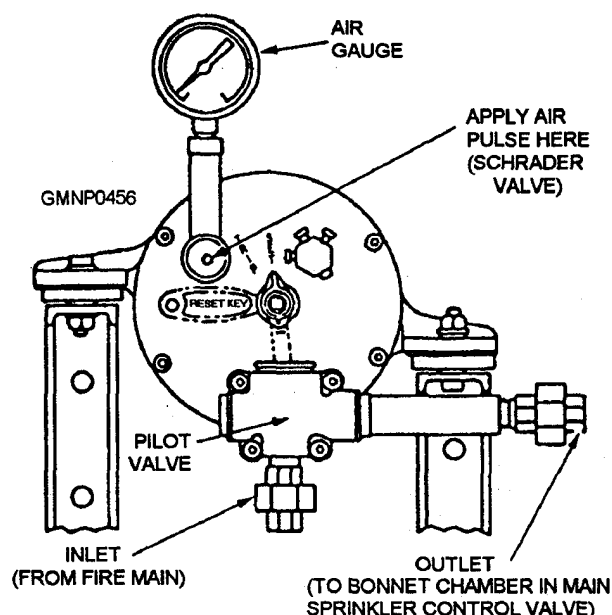

Figure 8-30.—Pneumatically released pilot valve (PRP).
**PNEUMATICALLY RELEASED PILOT VALVE.**— The pneumatically released pilot (PRP) valve (fig. 8-30) is the main component of the hydraulic control system. It is shock-mounted to the local control panel inside the magazine or RSR. The PRP valve, in response to the pneumatic pressure signal from one or more HSDs, starts automatic sprinkler activation.
Components outside the PRP valve housing include a hydraulic pilot valve, a Schrader valve, and an air-pressure gauge (see fig. 8-30). The pilot valve is installed in a saltwater line of the hydraulic control system. It rotates between a SET (closed) position and a TRIPPED (open) position. The pilot valve must be manually rotated back to its SET (closed) position with a special wrench (reset key).